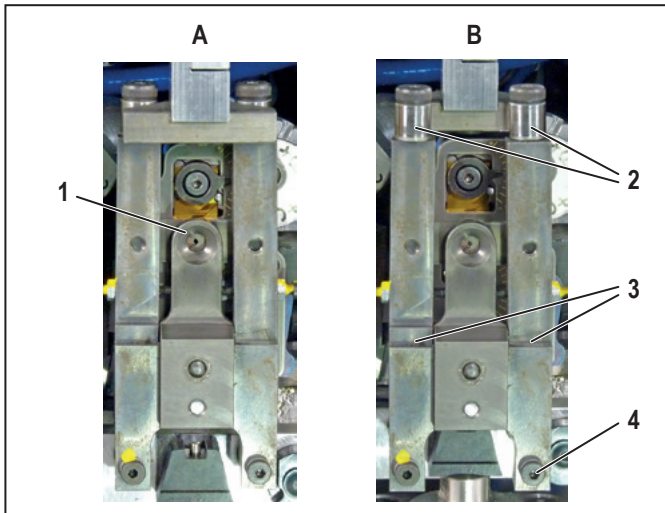

Figure 7.3 Stranded wire fixing unit in operating position (A) and pulled forward (B)
- Pull the stranded wire fixing unit forwards (Figure 7.3, B).
- Check whether the rollers (2) are able to move freely. If necessary, lubricate the rotation points of the rollers.
- Oil the rotation points (3) of the stranded wire fixing unit.
- ▶ Ensure that the stranded wire fixing unit is located in the front position (Figure 7.3, B).
- ▶ Remove the bottom right screw of the stranded wire fixing unit (Figure 7.3, 4).